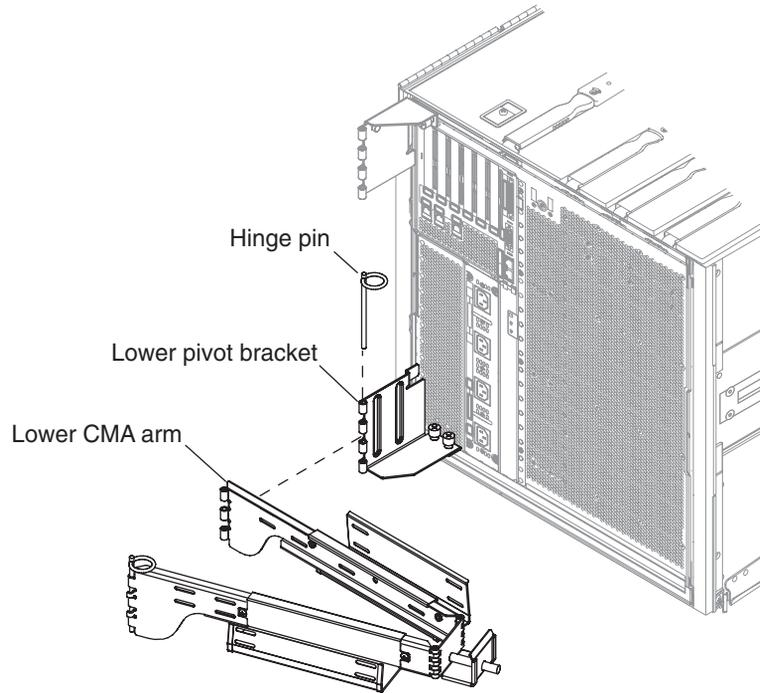

FIGURE 14-9 Attachment of Lower CMA Arm and Pivot Bracket
7. After attaching the bracket to the chassis, secure the lower CMA arm to the bracket using the hinge pin removed previously, FIGURE 14-9.